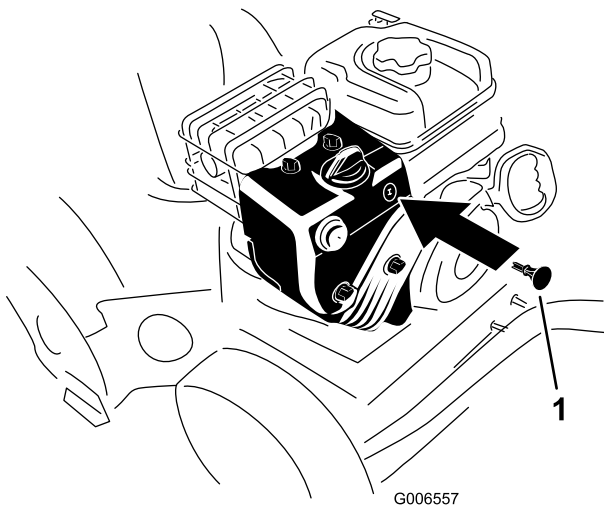

Figure 19
3. Insert the ignition key (Figure 19).